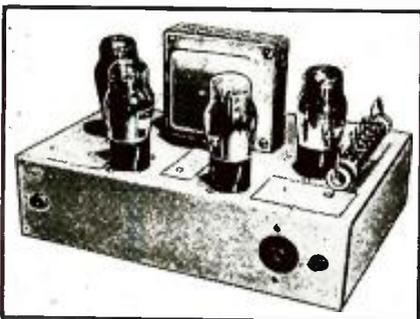

Fig. 1. Completed rectifier; extreme right, tapped keying bleeder connected across the output.
A circuit diagram of a 2-stage booster amplifier with a self-contained power supply is given in Fig. 1. This unit uses a pair of 6L6G tubes in a conventional circuit. You will note that a high-impedance input circuit is employed, which makes it excellent for bridging across the output of any amplifier. This amplifier can be connected directly to a 500-ohm tap of any standard amplifier.
SIMPLE to construct, this trouble-free system will double the rectified output from your present power transformer. Ideal for public address systems, transmitters, power amplifiers, etc., outputs up to 500 watts may be obtained from receiving tubes! See Fig. 1.
Fig. 1. The components in the photo of the Universal 25-W. Amplifier are identified as follows: (1) and (2), vibrators; (3), microphone inputs 1 and 2; (4), phono inputs 1 and 2; the controls, l. to r., are: gain controls for mikes 1 and 2, gain controls for phonos 1 and 2, and L.F. and H.F. controls; (5), l. to r., master and standby pilots; (6), l. to r., master on-off and idler switches; and (7), economizer switch.
Although 2 vibrators are shown in the photograph of the amplifier (see Fig. 1), only 1 vibrator is employed at a time. In other words, for 6-volt operation, the 6-volt vibrator (toward the rear of the amplifier) is utilized. For 110/220 volts D.C., the other vibrator is used. For A.C. operation, neither vibrator is employed.
Cutaway view of the Hammond tone cabinet showing the shape and location of the new reverberation control unit. (See details in drawing, Fig. 1.)
Electrical connections to the reverberation unit are made between the organ console and the output cabinet. Part of the electrical signal from the console passes around the reverberation unit and produces a part of the tone in the same manner that it has always done previously. A part of the electrical energy, however, passes into the unit itself where it energizes a small moving coil of the same type and general design as would normally be used to operate a dynamic loudspeaker. When the coil moves it does not radiate any appreciable sound, however, but instead, is made to actuate a very small aluminum cage to which are fastened a multiplicity of small helical steel springs and levers (see Fig. 1). One of these springs in turn actuates a Rochelle-salt crystal. The latter produces a new electrical signal which is amplified in the small extra amplifier. The signal from this amplifier is mixed with the original organ signal and fed to the output cabinet and to as many additional output cabinets as may be required. The principle of operation of the spring system is described hereafter.